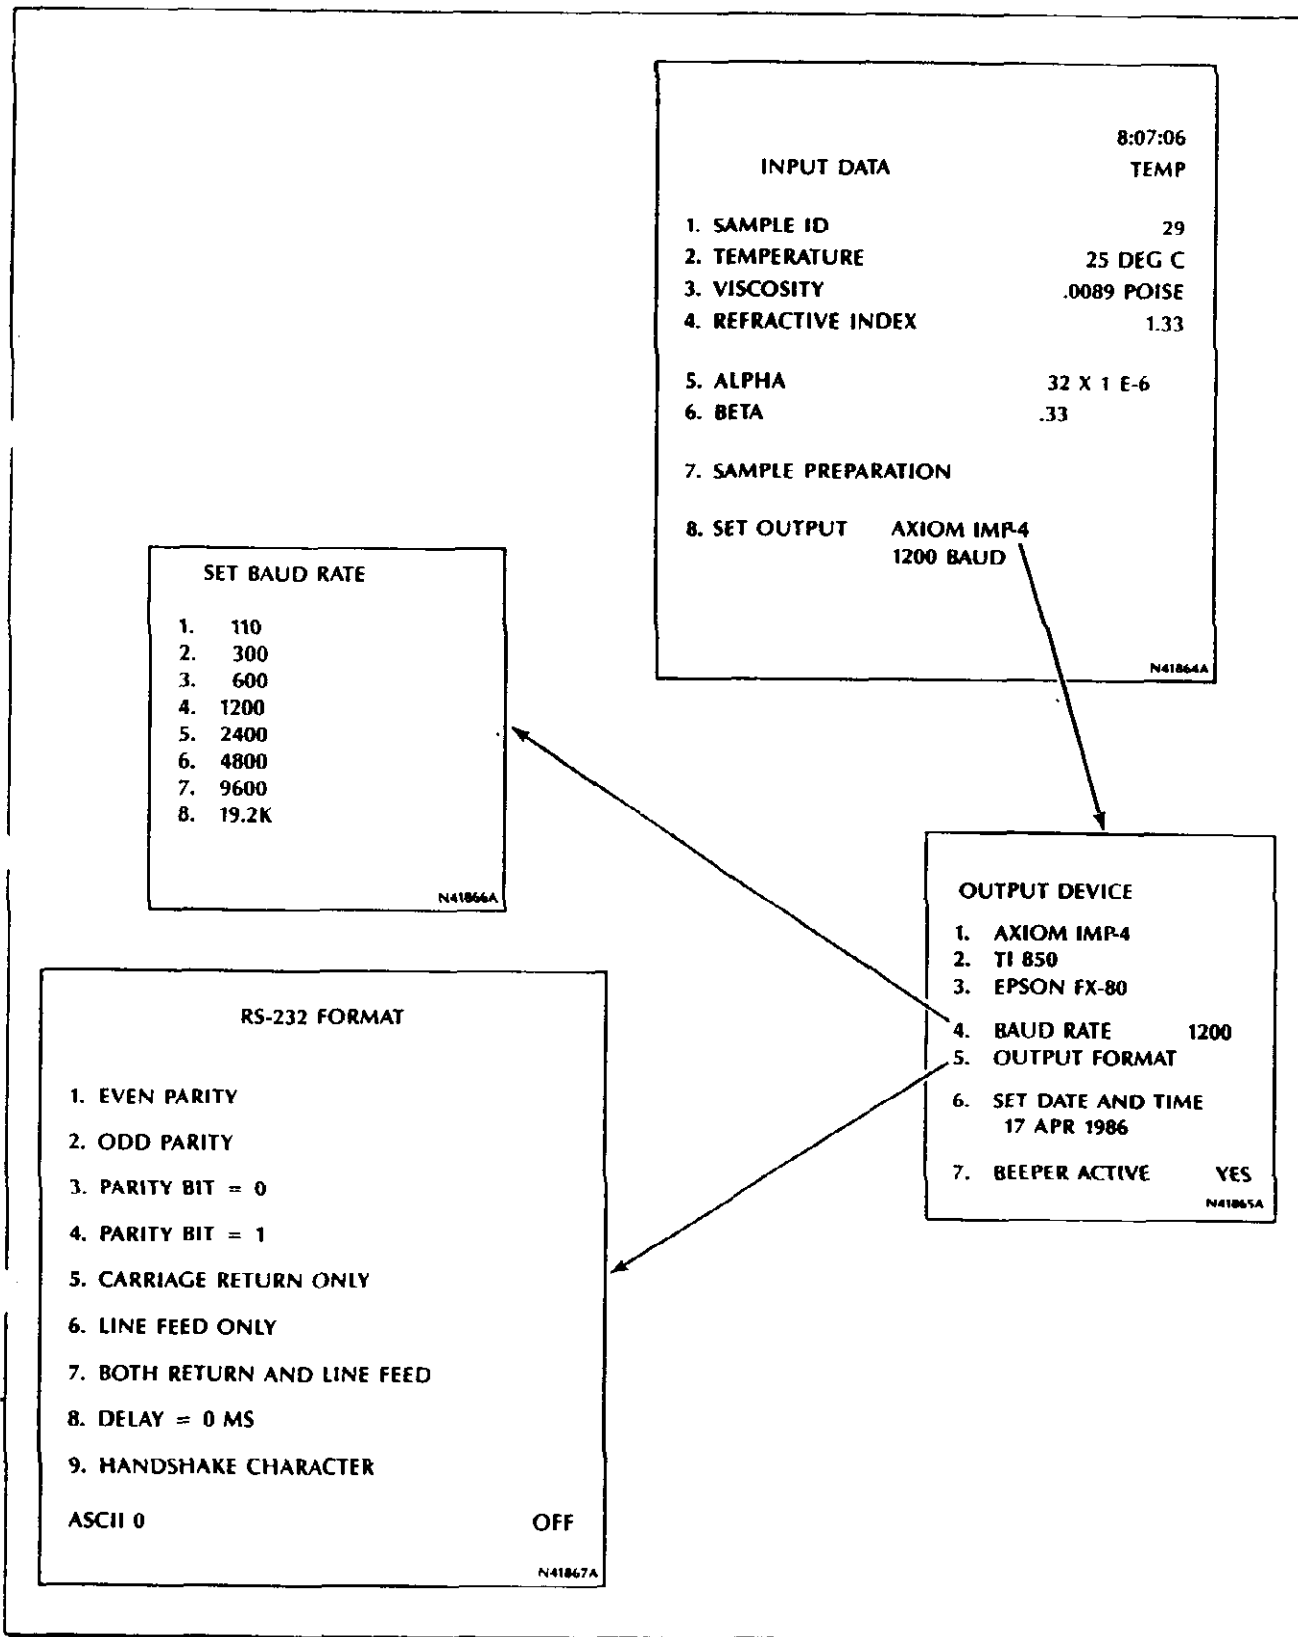
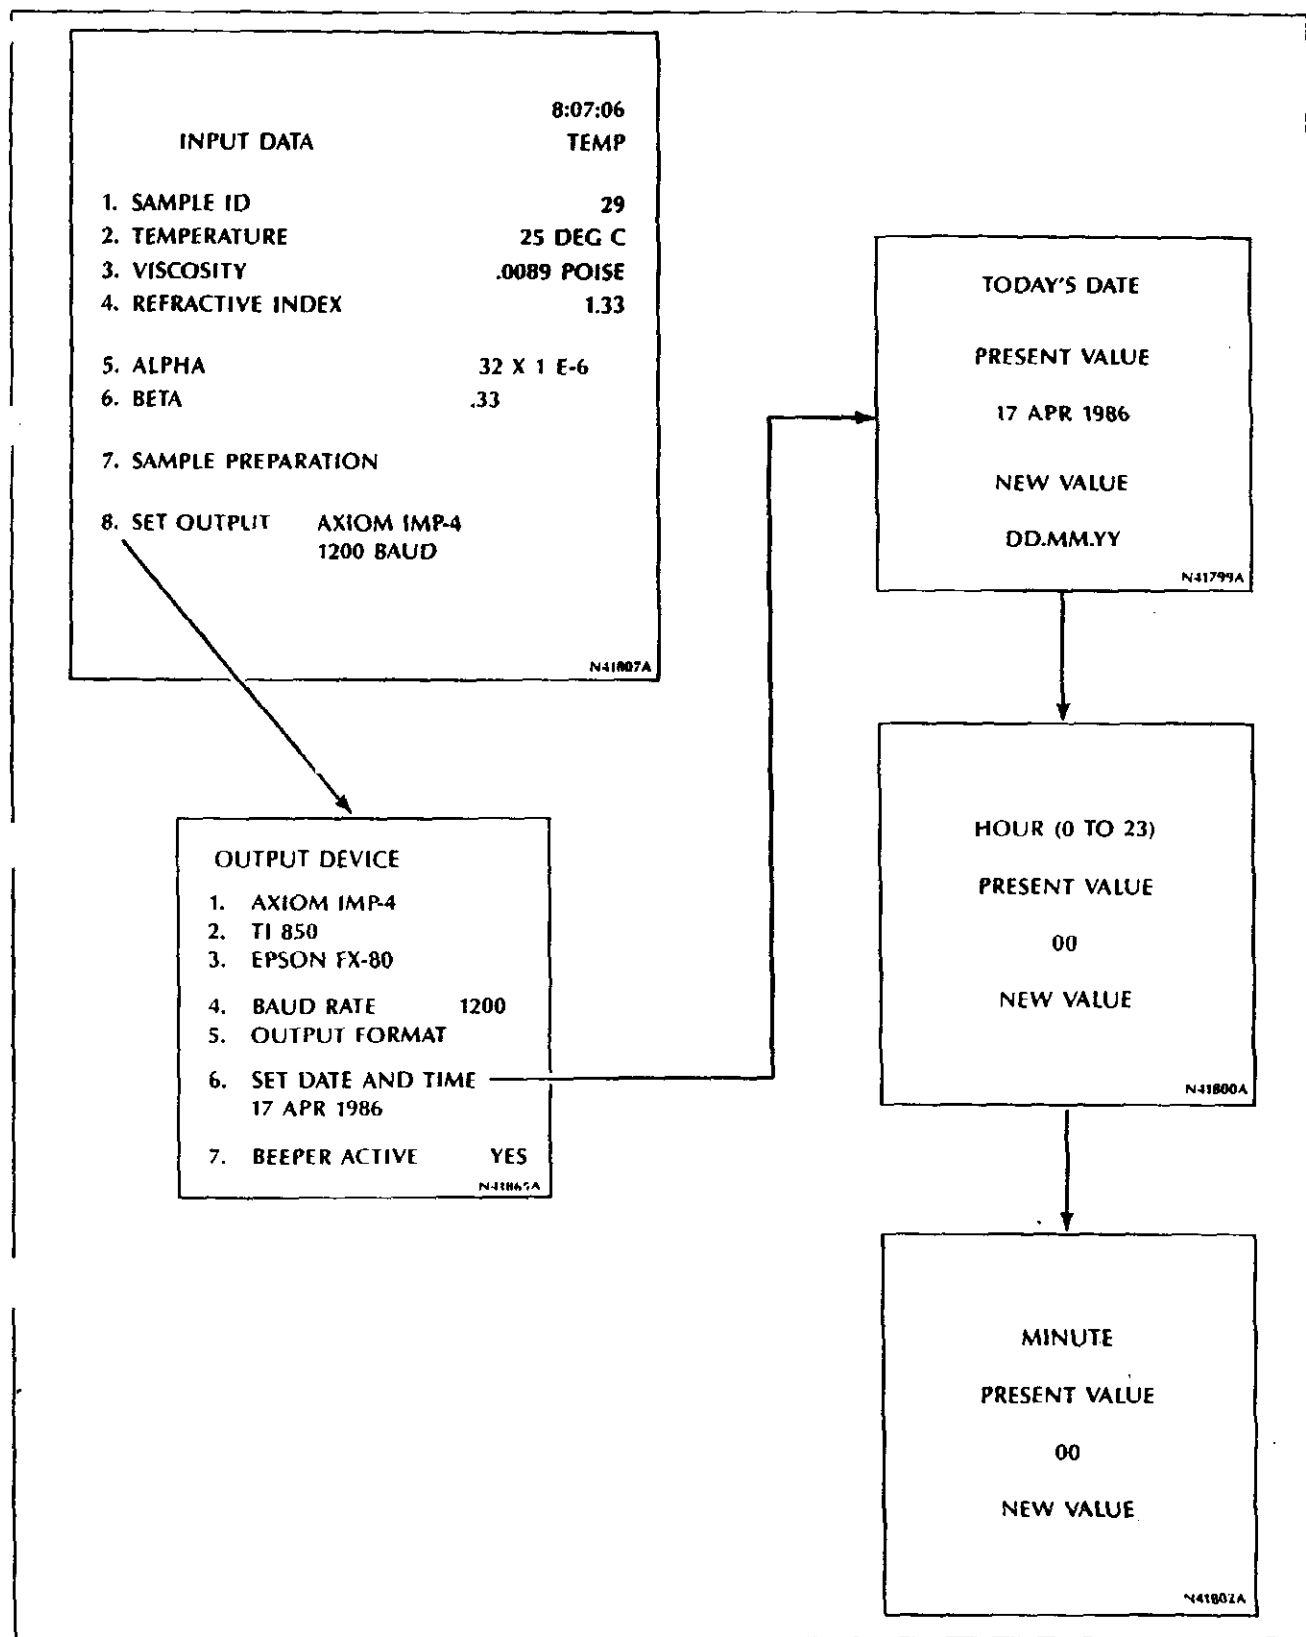

Figure 3.7 Setting the Output
Figure 3.8 Inputting the Date and Time
18. Press <ENTER> again to access the OUTPUT DEVICE menu.	<p>18. The OUTPUT DEVICE menu, Figure 3.7, appears.</p> <p>The Model N4MD software automatically sets the output format for the Axiom IMP-4, the II-850, and the Epson FX-80 printers when selected. To interface to an Axiom IMP-4, the cursor should be adjacent to AXIOM IMP-4; then press <ENTER>. The II-850 and Epson FX-80 printers are interfaced the same way. No other output setting is required for these three printers. See Appendix C for printer switch settings and cable assemblies. The Model N4MD has (as a standard feature) an RS-232C interface.</p>
<p>19. Move the screen cursor adjacent to BAUD RATE and press <ENTER> to select the RS-232C interface.</p> <p>Move the cursor to the required setting and press <ENTER> to set the RS-232C baud rate.</p>	<p>19. The SET BAUD RATE menu, Figure 3.7, appears.</p> <p>The baud rate that you enter depends upon the specific external device (printer or computer) to which the Model N4MD is interfaced. Once the data transmission rate is entered for that device it is normally not reset. Consult the external device instruction manual for necessary data transfer rate.</p>
<p>20. Move the cursor to OUTPUT FORMAT, Figure 3.7, and press <ENTER>.</p>	<p>20. The RS-232 FORMAT menu, Figure 3.7, appears. Each of the RS-232C settings is user selectable, depending on particular needs. Selections 1 through 4 offer you a full range of parity settings. Selections 5 through 7 define three specific character combinations that are used to simplify data communication with external devices requiring one of these settings. Selection 8 lets you select a time delay (0 to 9999 ms) between transmission of data lines. Selection 9 is used in 'handshaking systems'. Allowable values are 0 to 127. Setting the ASCII characters to 0 indicates no handshaking is to occur.</p> <p>All INPUT DATA values are entered.</p>
<p>21. Move the cursor to SET DATE AND TIME, Figure 3.7, and press <ENTER>.</p>	<p>21. The TODAY'S DATE and subsequent screens, Figure 3.8, appear.</p> <p>This lets you reset these parameters without the instrument being shut off and restarted.</p>
<p>22. Enter the correct date by pressing the appropriate numeric keys, <.>, and <ENTER>. Refer to Figure 3.8.</p>	<p>22. TODAY'S DATE is displayed. The date is recorded at the beginning of a printout.</p>
23. Press any key to access the HOUR display. To enter the hour of the day (9:45), press the required numeric key <9> and <ENTER>.	23. The HOUR (0 TO 23) display appears. The hour selected (9) is displayed.
24. Press any key to access the MINUTE display. To select the minutes value for the correct time (9:45), press the appropriate numeric keys <4> and <5>, and <ENTER>.	24. The MINUTE display appears. The new value (45) is entered. You are now finished setting the date and time.
25. Move the cursor to BEEPER ACTIVE, Figure 3.7.	25. Toggle your selection via <YES> or <NO>. Each time a key is pressed a beep is emitted. If you choose to remove this feature, change the setting to NO.